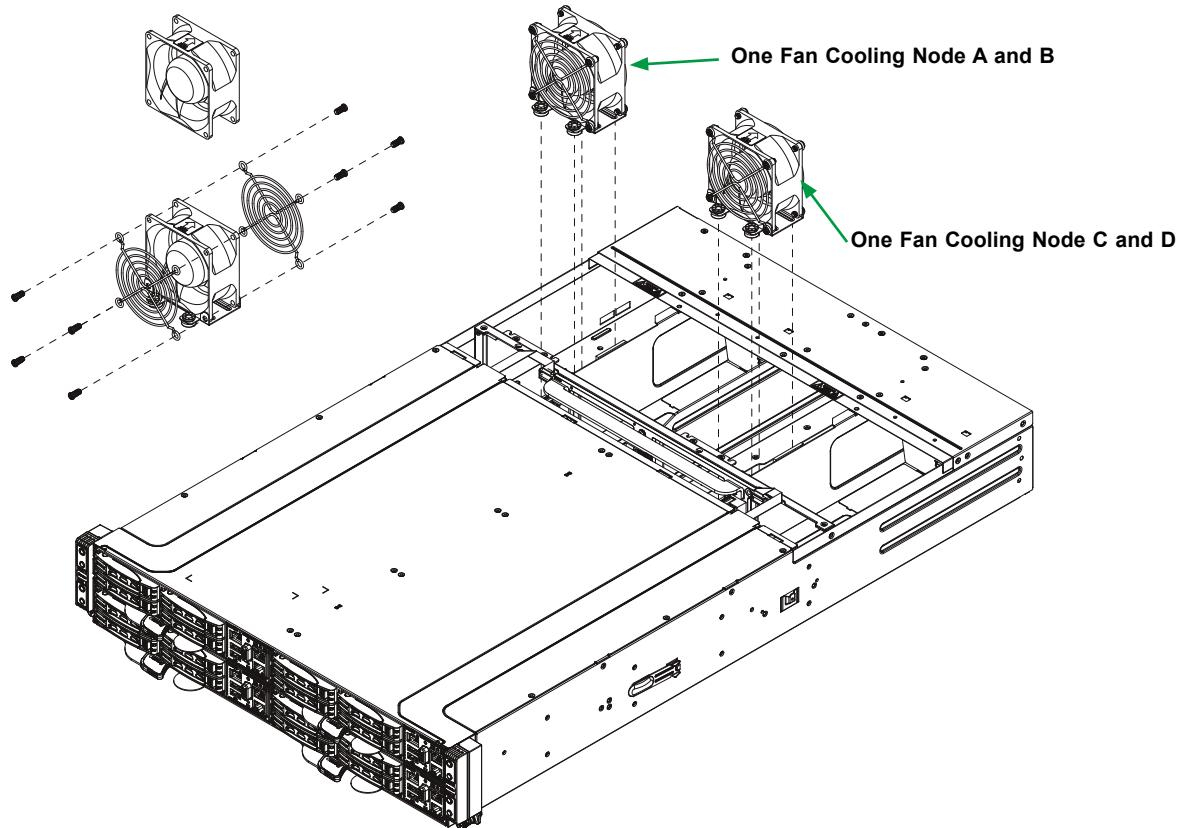

Figure 3-11. System Fan Placement
- **BMC > Server Health > NVMe SSD** – Shows the temperatures of all NVMe drives, as in Figure 3-11.